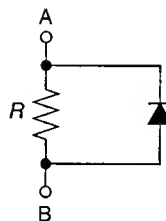

FIGURE 2.54
54. Explain how you could measure the value of R in Figure 2.54 without disconnecting the diode.